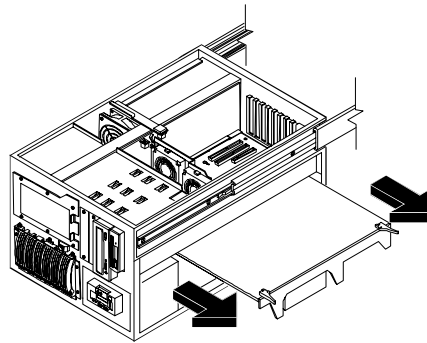

Figure 5-4. Removing System Board From LH 3r
2. Remove the system board by raising the retaining latches to disengage it from the socket, then pull it out until it clears the chassis guides. (See Figure 5-4.)